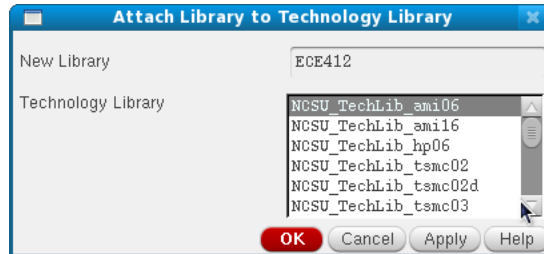

Figure 2: Attaching Technology Library
- Select “NCSU_TechLib_ami06” as shown in figure 2 then OK.